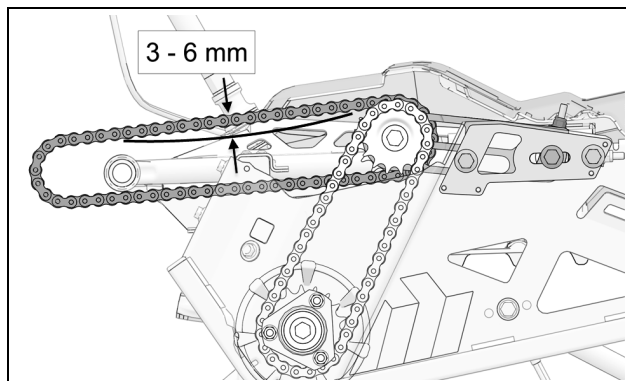

Figure 7
- Once the secondary drive chain tension is set, finalize tension adjustment of primary drive chain. Apply pressure at center of the two drive sprockets. The chain should have 3-6 mm (1/8 - 1/4 in.) of play. Re-adjust until the right amount of play is obtained. See Figure 7.